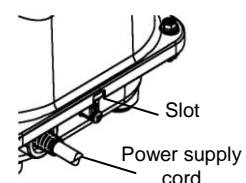

Fig 2-D
- Remove the shock absorber. Undo the screws and remove the holder cover. (Ref.: Fig 2-E)